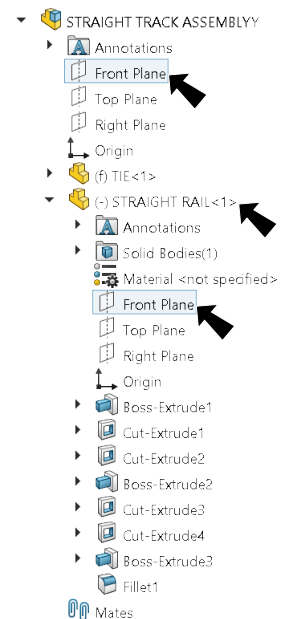

Fig. 8
Step 5. Expand the flyout Feature Manager design tree, click **Front Plane** , expand **Rail** and click **Front Plane** , **Fig. 8**.